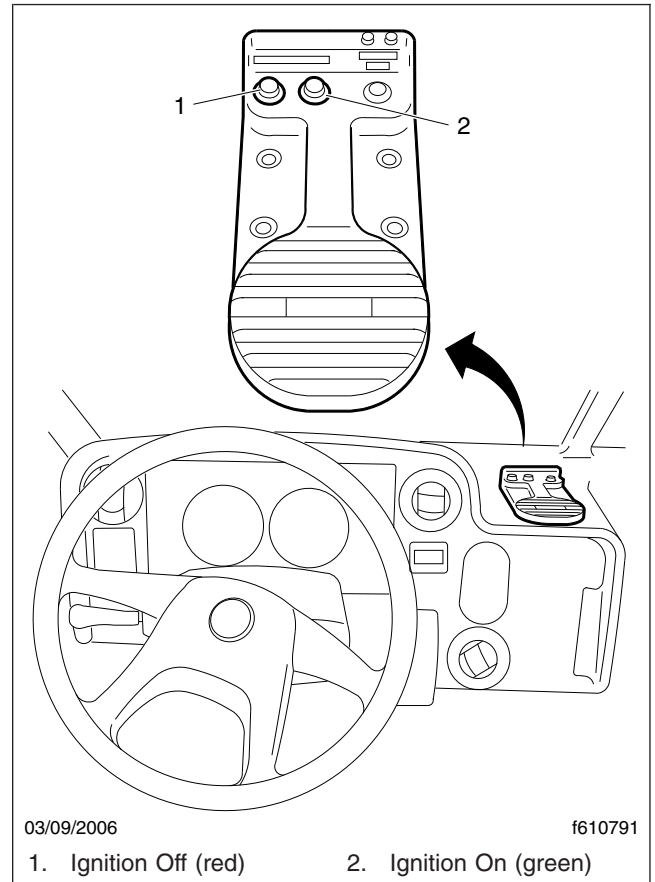

Fig. 9.3, Ignition Reader (optional on some vehicles)
2. Start the engine with the key, or, if equipped with an ignition reader, position the wristband approximately 1 inch (25 mm) above the electronic wristband reader on the ignition pad and press the green button located on the ignition reader for approximately one second. Continue to press and hold the green button to start the engine. See Fig. 9.3.
Turn off the ignition, or if equipped with an ignition reader, press the red button on the ignition pad. See Fig. 9.3.